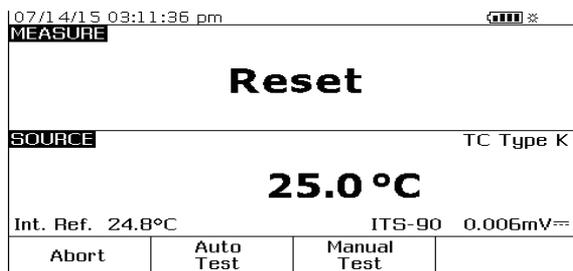
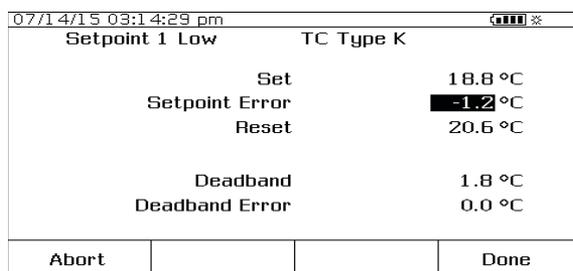

Figure 5. MEASURE/SOURCE split screen, contacts reset.
Figure 6. Post-test summary, with reverse video.
7. You should now see the split screen (Figure 5). Select the "Auto Test" softkey and the "Continue" softkey. The DPC will now ramp the simulated thermocouple potential into the limit switch back and forth past the nominal setpoint and record the sourced temperature values for the actual setpoint, and then show that value in the upper left-hand corner of the DPC display. Once that is done, the DPC will then test the reset point of the switch by ramping the simulated thermocouple potential into the switch back and forth past the nominal (21 °C - 23 °C) expected reset value. Once that value is recorded, you should be presented with a post test summary similar to that in Figure 6. Errors exceeding test tolerance are recorded in inverse video.